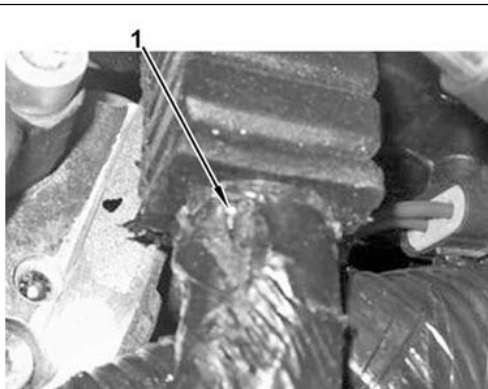

**Figure 13 - Harness Damage**
16. Repair or Replace harness if evidence of rubbing through to copper is observed (Figure 13, Item 1).